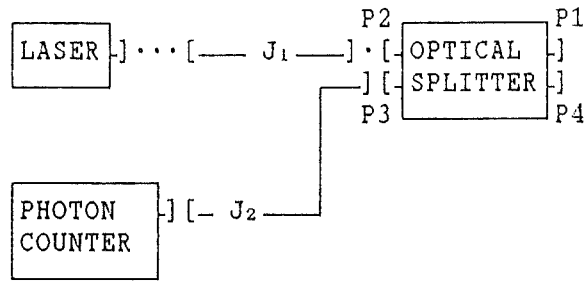

Figure 3
** Make the optical connections as shown in Figure 3 below.